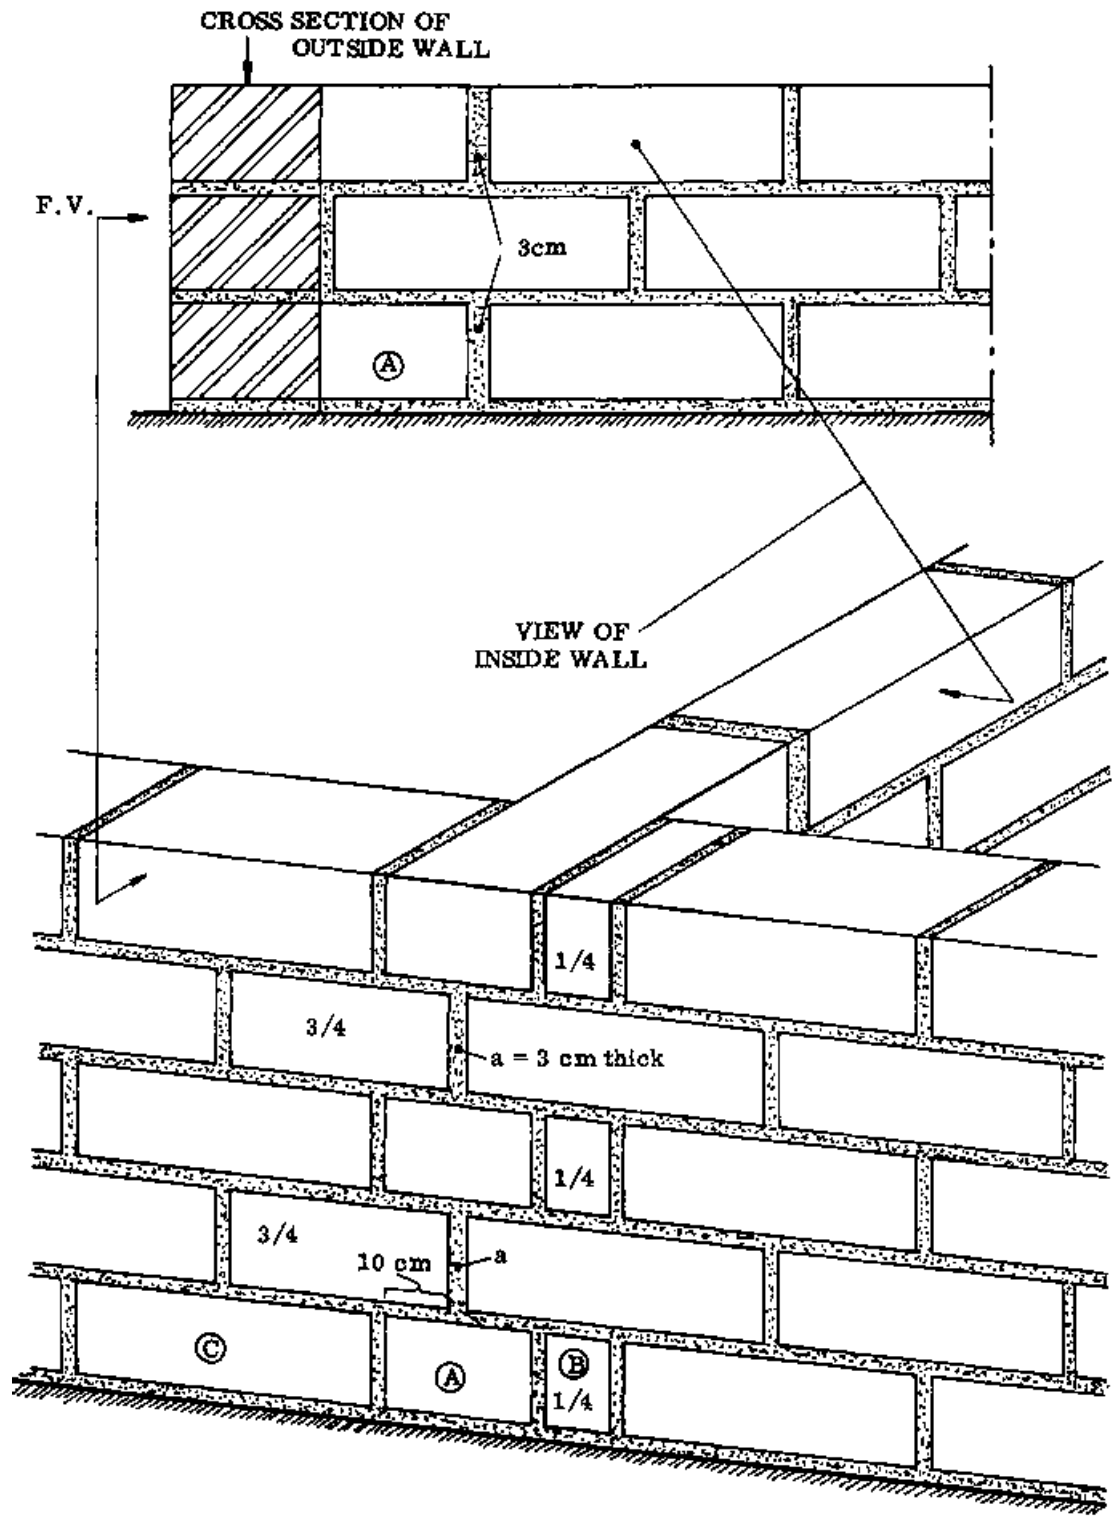
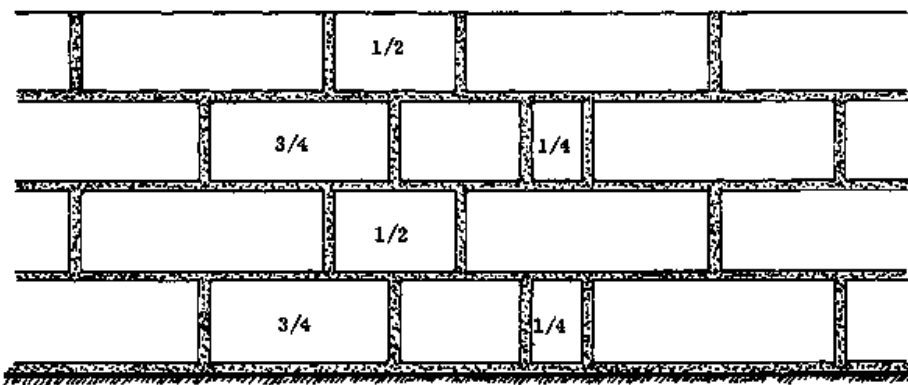

Fig. 1 & 2 COMBINED SECTION OF OUTSIDE WALL AND VIEW OF INSIDE WALL
Fig. 2 3rd CONSTRUCTION
The first block to be laid is the first block (A) of the inside wall: it will be seen as a header in the face of the outside wall (Figs. 1 & 2). This followed by a 1/4 block (B) at one side of it in the direction of the outside wall, and by a full block (C) on the other side (Fig. 2). This is followed by laying full blocks in all three directions.
The second course, and all the alternate courses, go through in the direction of the outside wall, that is, they do not share a block with the inside wall. Thus the inside wall is bonded to the outside wall only at alternating courses: at the 1st, 3rd, 5th etc. courses (Figs. 1 & 2).
The second course starts with a 3/4 block overlapping the header below by 10 cm but from the side opposite from the 1/4 block below. This is followed by full blocks in all three directions (Figs. 1 & 2).
The cross joints between the headers of the inside wall (a) are 3 cm thick and must be exactly in line with the centre of the headers (Fig. 1). The cross joints directly following the blocks which are bonded to the outside wall are also 3 cm thick (Fig. 2). All the other joints are 2 cm thick.